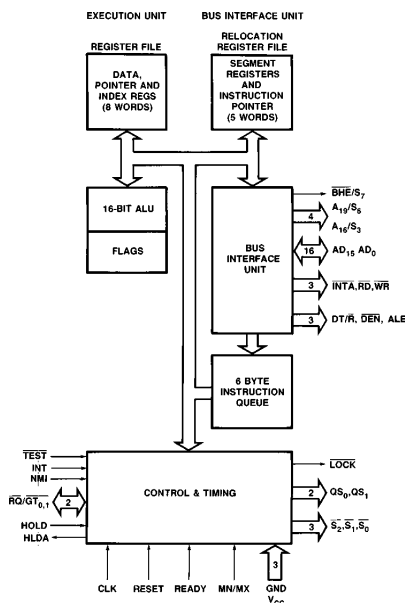

Figure 1. M80C86 CPU Block Diagram
The internal functions of the M80C86 processor are partitioned logically into two processing units. The first is the Bus Interface Unit (BIU) and the second is the Execution Unit (EU) as shown in the block diagram of Figure 1.